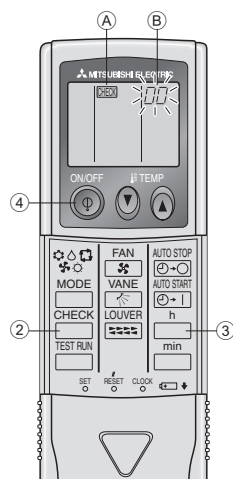

Fig. 7-4
- (A) CHECK button
- (B) Refrigerant address
- (C) TEMP. button
- (D) IC: Indoor unit
- (E) Check code
- (F) Unit address
7.3.2. Wireless remote controller (Fig. 7-4)